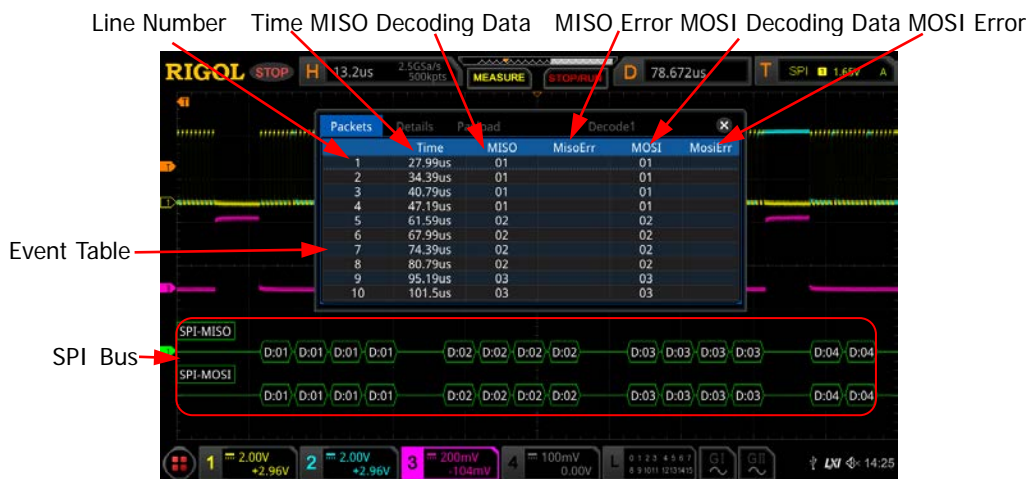

Figure 12-8 SPI Decoding Event Table
- Open or close the event table: Press **Event Table** continuously to enable or disable the event table. When you enable the event table, the following figure is displayed, as shown in Figure 12-8. You can also enable the touch screen to tap the icon  at the upper-right corner of the table to close the event table. Besides, when the operating status is "STOP", you can also rotate the multifunction knob  to select a specified line and view the corresponding decoding information.